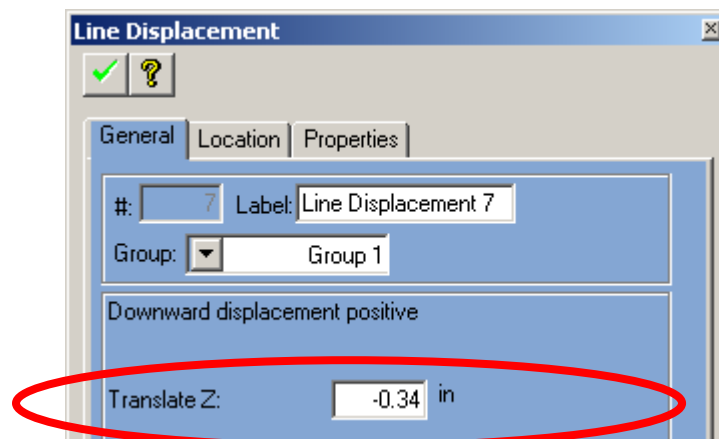

FIGURE 4.3-2 CRITERIA DIALOG BOX
- In the *Loading* menu, select *Line Displacement* for the *Apply Displacement* drop down menu. Next click on the Item's Properties  button. Change the following parameters (**Fig. 4.3-2**), then click on the  button to accept the changes: